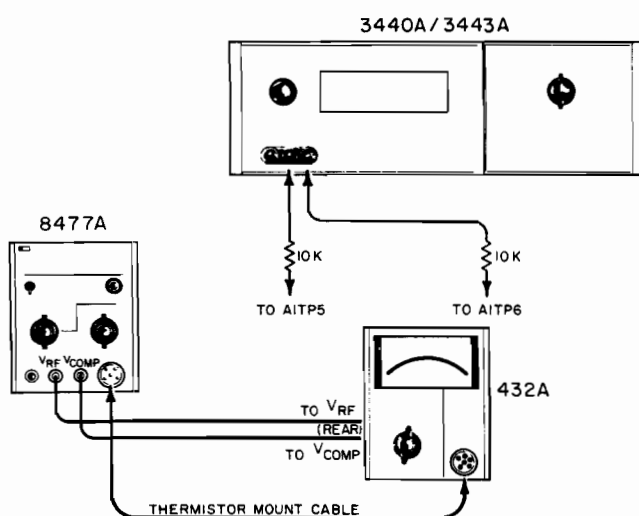

Figure 5-3. Bridge Amplifier Test
- Connect equipment as shown in Figure 5-3.